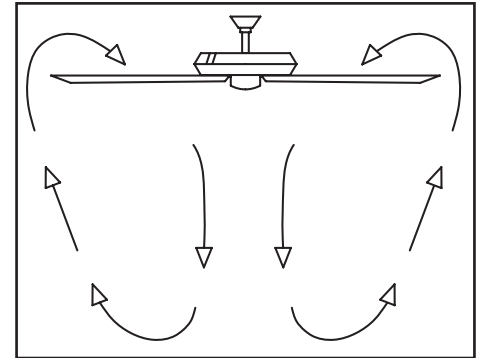

Figure 16
**Warm weather** - (Forward) A downward air flow creates a cooling effect as shown in Figure 16. This allows you to set your air conditioner on a higher setting without affecting your comfort.